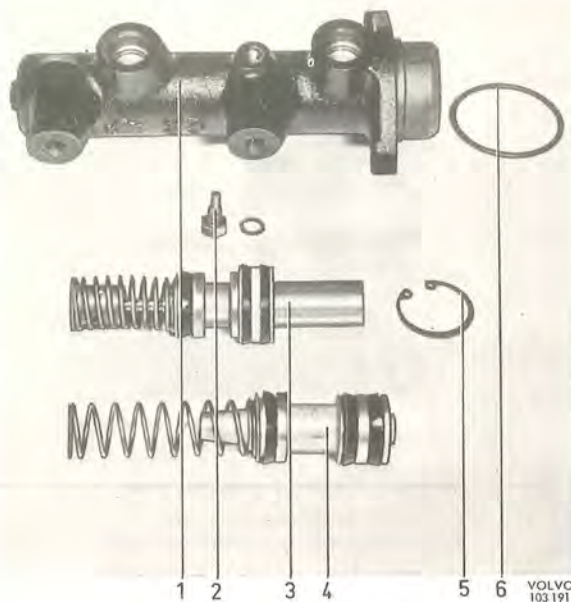
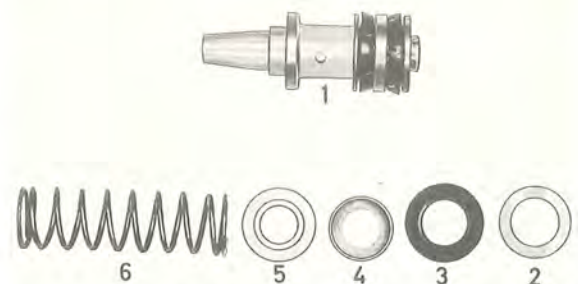

Fig. 5-48. Master cylinder dismantled
Fig. 5-49. Secondary piston
If wear on the cylinder or secondary piston is suspected, the diameter should be measured with a micrometer or indicator. The cylinder bore must not exceed 23.92 mm (.942") and the diameter of the piston may not be less than 23.66 mm (.931"). Each time reconditioning is carried out, replace the primary piston (3, Fig. 5-48) and the secondary piston (4, Fig. 5-48) complete as well as the stop screw (2) with washer and circlip (5), also the sealing ring (6). Moreover, the rubber seals (Fig. 5-46) for the container should be replaced.
1. Fit the secondary piston, see Fig. 5-49, the brass washer (2) and the piston seal (3). Check to make sure that the seal is turned correctly, see Fig. 5-48.
2. Coat brake fluid on the cylinder and dip the piston and seals in brake fluid before fitting. Fit the washer (4, Fig. 5-49), the thrust washer (5) and the spring (6) on the secondary piston (1) and fit the piston as shown in Fig. 5-50. Be careful when inserting the seals in the cylinder.
3. Fit the washer (2), the piston seal (3), the plastic washer (4), the piston seal (5), and the washer (6) on the primary piston, see Fig. 5-51. Check that the seals are facing correctly, see Fig. 5-48.
4. Dip the piston and the seals in brake fluid and fit the piston in the cylinder, see Fig. 5-52. Press in the piston and fit the circlip (5, Fig. 5-48).
5. Check that the hole for the stop screw is clear and fit the screw (2, Fig. 5-48) with a new sealing washer. The tightening torque is .5—8 kgm (3.6—5.7 lb.ft.).
1. Place the sealing ring (6, Fig. 5-49) on the master cylinder. Fit the cylinder in position and then the